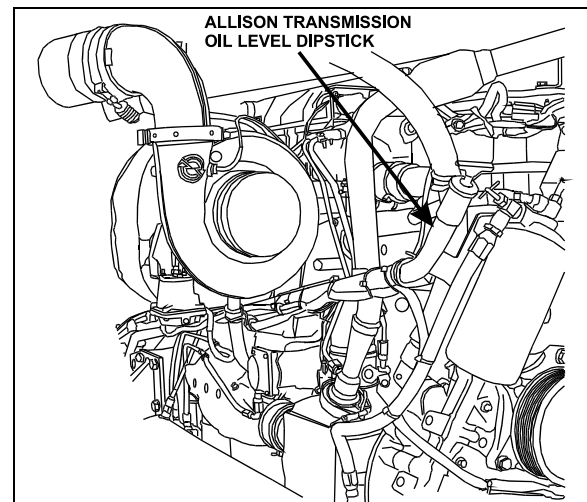

FIGURE 4: OIL LEVEL DIPSTICK (AUTO. TRANS.) 07113
To gain access to the dipstick, open the engine compartment rear doors; dipstick is located on the radiator side of the engine (Fig. 4).
2. Run the engine for at least one minute. Shift to Drive (D) and operate the engine for 30 seconds at 1000-1500 rpm; then shift to Reverse (R) to clear the hydraulic system of air. Finally shift to Neutral (N) and allow the engine to idle (500 - 800 rpm).
3. While the engine is running, remove the dipstick from the tube and wipe it clean (Figs. 4 & 5).
4. Insert the dipstick into the tube and then remove, checking the oil level reading (Fig. 4). Repeat the check procedure to verify the reading. If the oil reading is within the "Cold Run" band, the level is satisfactory for operating the transmission until the oil is hot enough to perform a "Hot Run" check. If the oil reading is not within the "Cold Run" band, add or drain oil as necessary to bring the level within the "Cold Run" band.